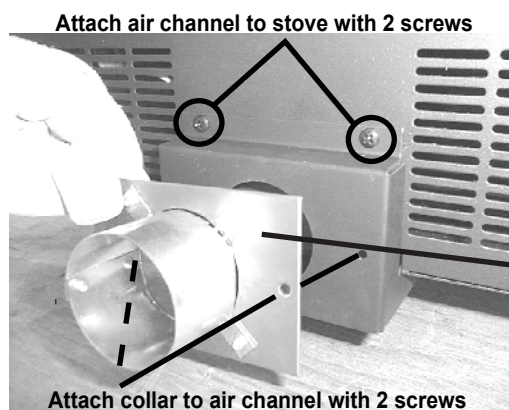

Figure 19.3
3. Secure air channel to appliance with 2 screws and secure the collar assembly to the air channel with 2 screws. **Figure 19.3**.